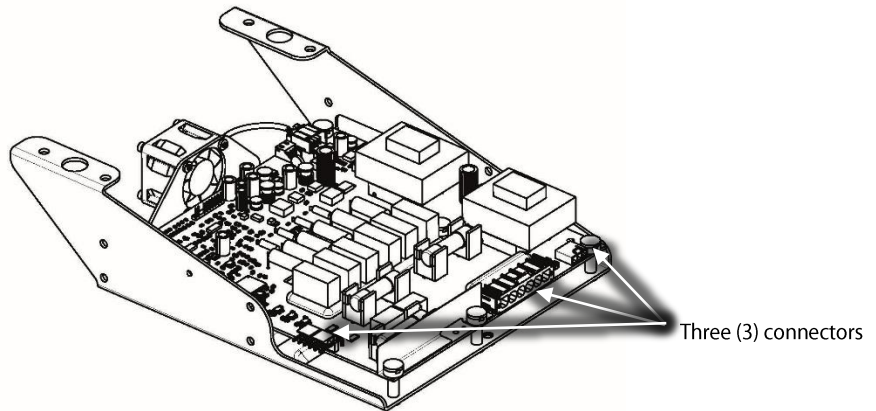

Figure 4 – Soft Start Harness Removal
11. Unplug the cable connectors from the Soft Start board. Refer to Figure 4 (Soft Start Harness Removal).